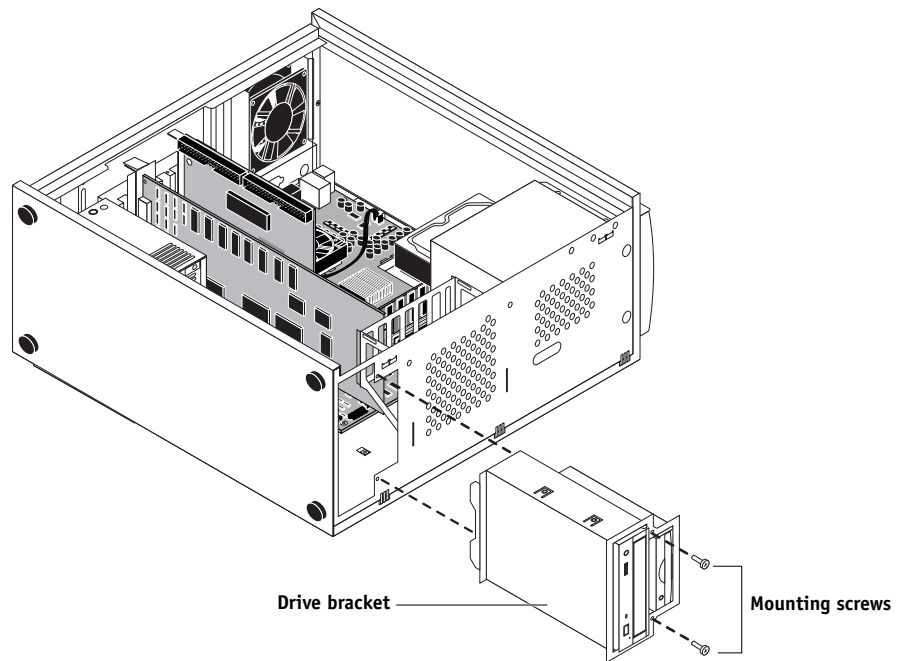

FIGURE 4-32 Removing/replacing the drive bracket
4. Remove the two screws on the front of the chassis (see Figure 4-32). These screws secure the bracket to the chassis.
4. Replace the two screws on the front of the chassis that secure the drive bracket to the chassis (see Figure 4-32 on page 4-59).